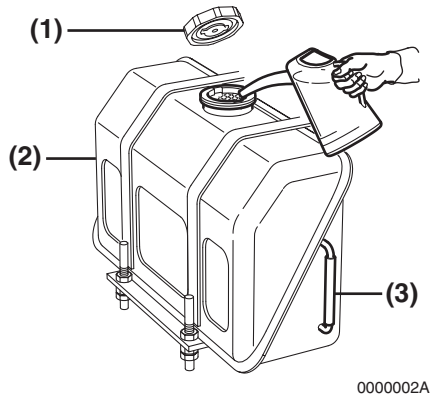

Figure 4-3
1. Clean the area around the fuel cap (**Figure 4-3, (1)**).
2. Remove the fuel cap (**Figure 4-3, (1)**) from the fuel tank (**Figure 4-3, (2)**).
3. Observe the fuel level sight gauge (**Figure 4-3, (3)**) and stop fueling when the gauge shows the fuel tank is full. NEVER overfill the fuel tank.
4. Replace the fuel cap (**Figure 4-3, (1)**) and hand tighten. Over-tightening the fuel cap will damage it.